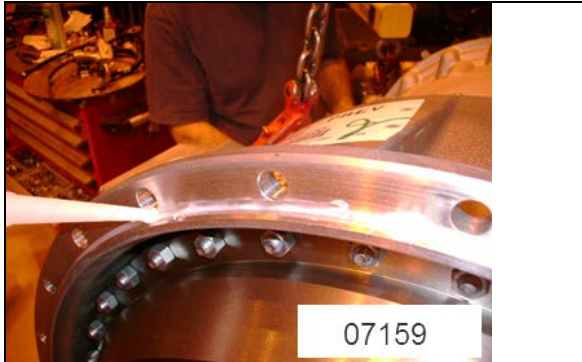

FIGURE 12: SILICONE APPLICATION TRANSMISSION HOUSING
8. Apply clear silicone (Prevost #680457 or equivalent) around the edge of the transmission housing (Figure 12: silicone application transmission housing).